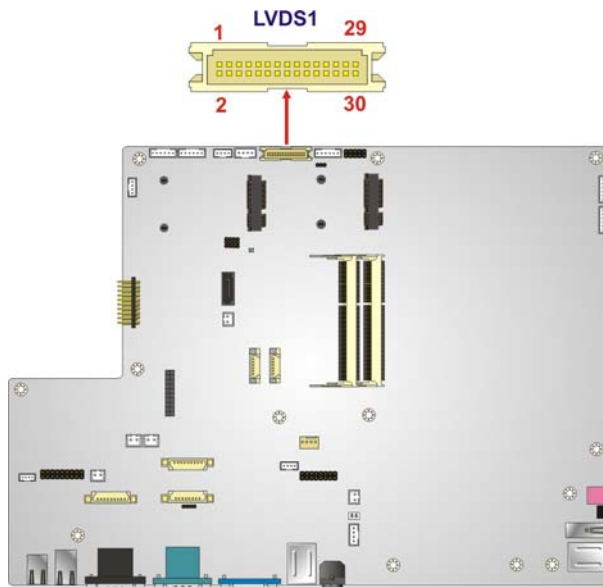

Figure 5-18: LVDS Connector Location
- CN Location: See **Figure 5-18**